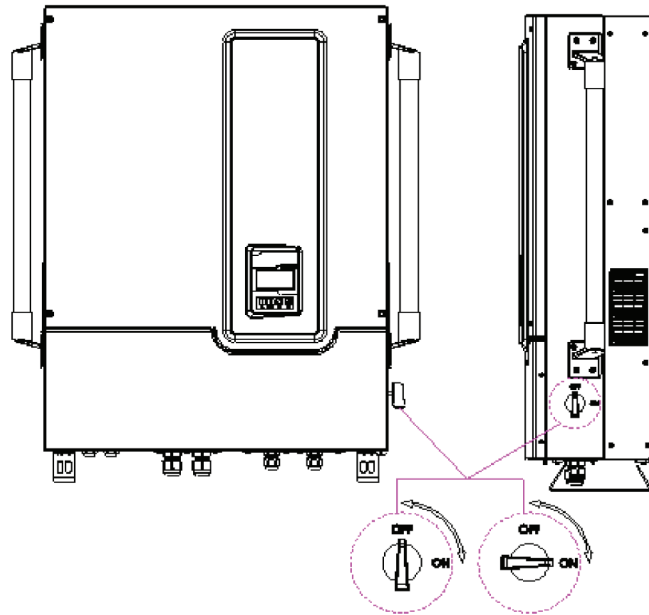

*Fig 2.2.4 Hook the Inverter on the mounting bracket and then fasten the screw*
3. Once the mounting bracket is fastened to the wall, the inverter can be mounted and fastened on the bracket. Hook the inverter on the mounting bracket flanges and slip down carefully to lock it in place. And then fasten the inverter to the mounting bracket as shown in Fig 2.2.4.